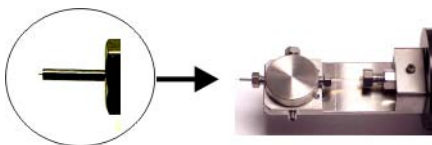

Figure 8-18 Cutting the Fused Capillary Close to the Nebulizing Capillary
- c. Tighten the grub screw above the Valco union to secure it in place and also tighten the gas seal nut on the tee to secure the fused silica (Figure 8-18).